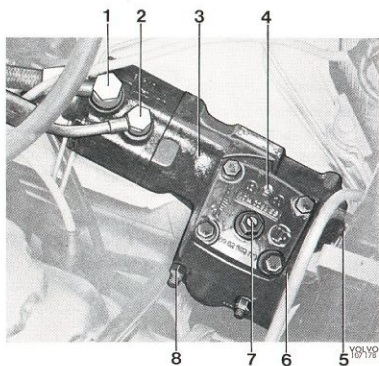

Fig. 6-74. Steering housing installed
Jack up the front end. Screw out the draining plug (6, Fig. 6-74). Turn the steering wheel to the left to the stop position. Remove the cover on the container.
4. Open the bleeder screw (4, Fig. 6-74) $\frac{1}{2}$ —1 turn. Close it when oil starts flowing out.
- c) Slacken the nut for the adjusting screw (8, Fig. 6-74).
4. Disconnect the oil lines (1 and 2, Fig. 6-74) from the steering housing after the connections have been cleaned. Slacken the clamping bolt.
5. Remove the attaching bolts (8) and pull the steering housing forwards.
- Fit the steering housing spindle in the flange of the lower steering column section. Fit and tighten the attaching bolts (8, Fig. 6-74). Tighten the clamping bolt. Check that the distance between the steering housing and the lower flange is 12 ± 3 mm. Connect the oil lines. The longer delivery line should run in a curve backwards, (see Fig. 6-43) and should be clamped.